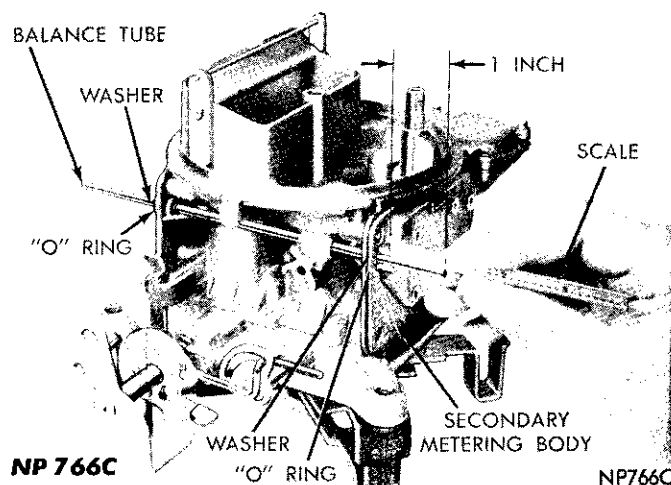

Fig. 14—Positioning Balance Tube
(5) Position balance tube so that only 1 inch extends beyond the secondary metering body (Fig. 14). (Use a 6 inch ruler for this measurement.)
(6) Place a new gasket over primary metering body aligning pin. (Rear) Carefully slide metering body over balance tube and down into position against main body.
(7) Slide a new gasket over metering body alignment studs and carefully position against body.
(8) Carefully install primary fuel bowl over balance tube and down against metering body. Slide new gaskets over the long fuel bowl mounting screws, then install in position through fuel bowl. Tighten securely.